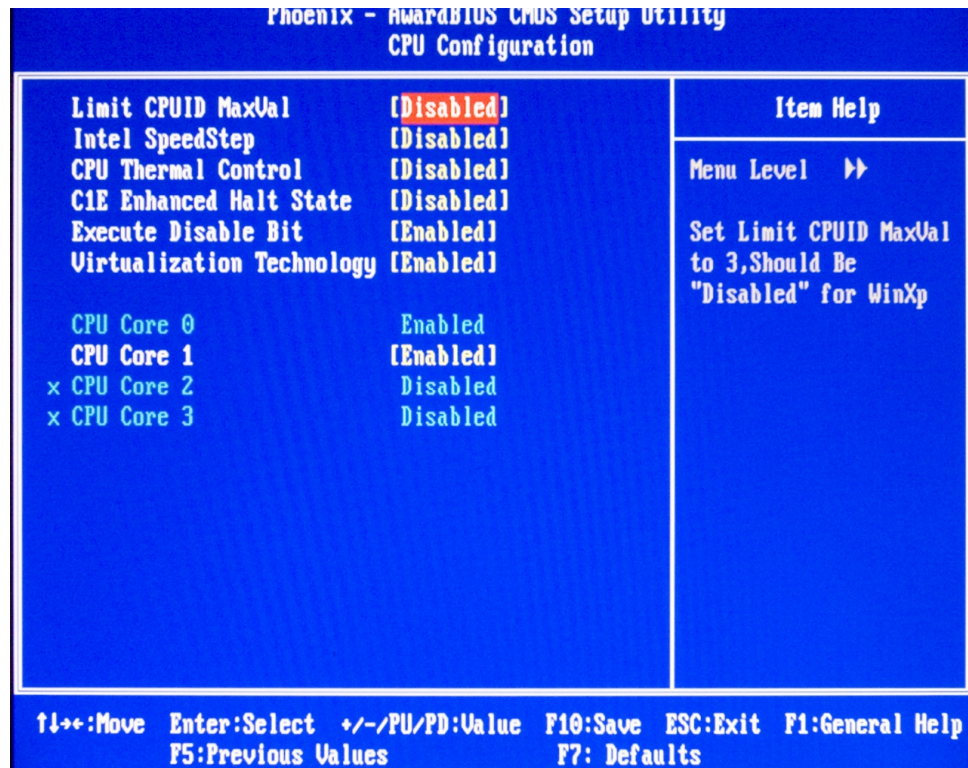

Figure 3. Disable Limiting Features
3. Set CPU Thermal Control to Disable as shown in Figure 3.
4. Set C1E Enhanced Halt State to Disable as shown in Figure 3.
5. Set Intel Speedstep to Disable as shown in Figure 3.